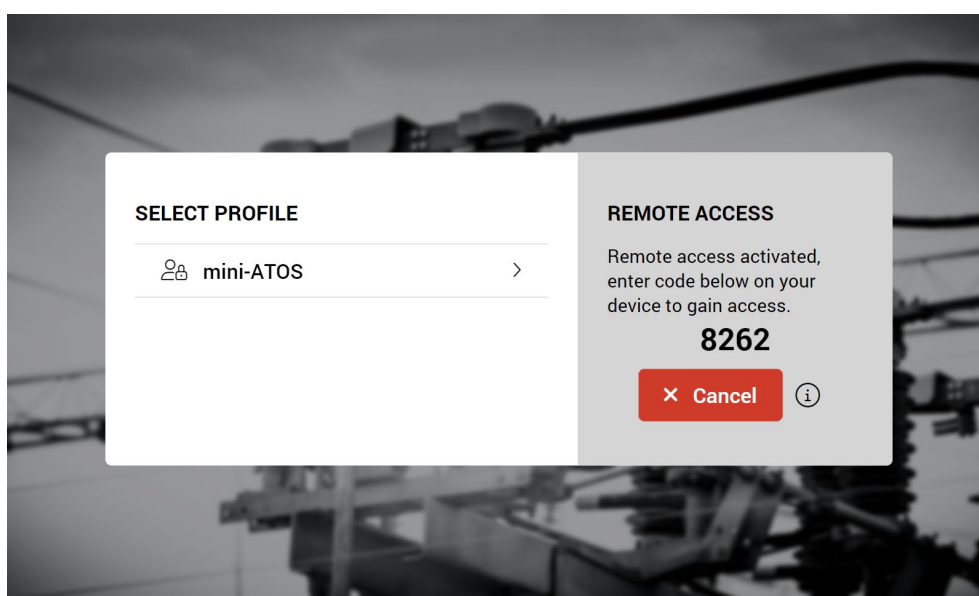

Figure 119: Remote access activated with an auto-generated key on the mini-ATOS display
- 4- Activate remote access on the select profile page. If you didn't input the access key manually in the settings, you will see then the auto-generated access key (Figure 119)